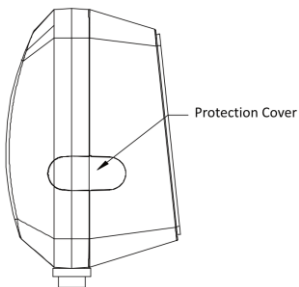

Figure 2-3 Open the Protection Cover
3. Adjust the camera to the target angle. Open the protection cover on the side of the camera, as shown in Figure 2-3.